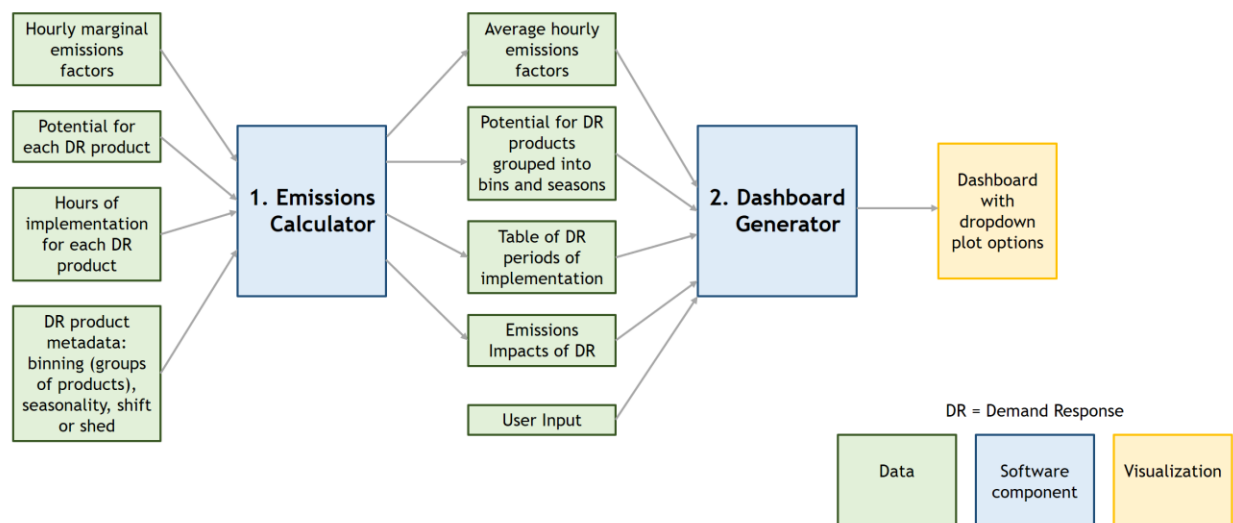

Figure 1. High-level component specification for the Northwest Demand Response Emissions Calculator project.
The two main components of our project are (1) the Emissions Calculator and (2) the Dashboard Generator, with component interactions illustrated in Figure 1. The Emissions Calculator processes the data and outputs csv files that are used by the Dashboard Generator to visualize the processed data. Running the Emissions Calculator in advance allows the Dashboard Generator to quickly display the results, rather than re-calculating emissions impacts every time the website is loaded. We include the Emissions Calculator in our public repository so that a data analyst user could clone the repository, upload and specify new data, and re-run the Emissions Calculator for this updated data. This will be useful for future iterations of demand response (DR) projections, as the Northwest Power and Conservation Council continues to update projected DR potential and emissions rates for various policy scenarios.